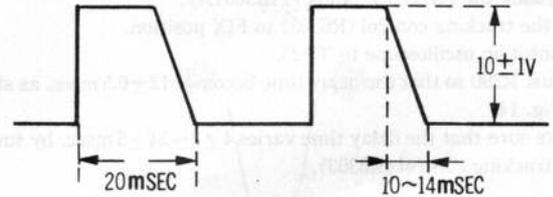

Fig. 9
3. Make sure that the waveform of TP25C becomes as shown in Fig. 9.